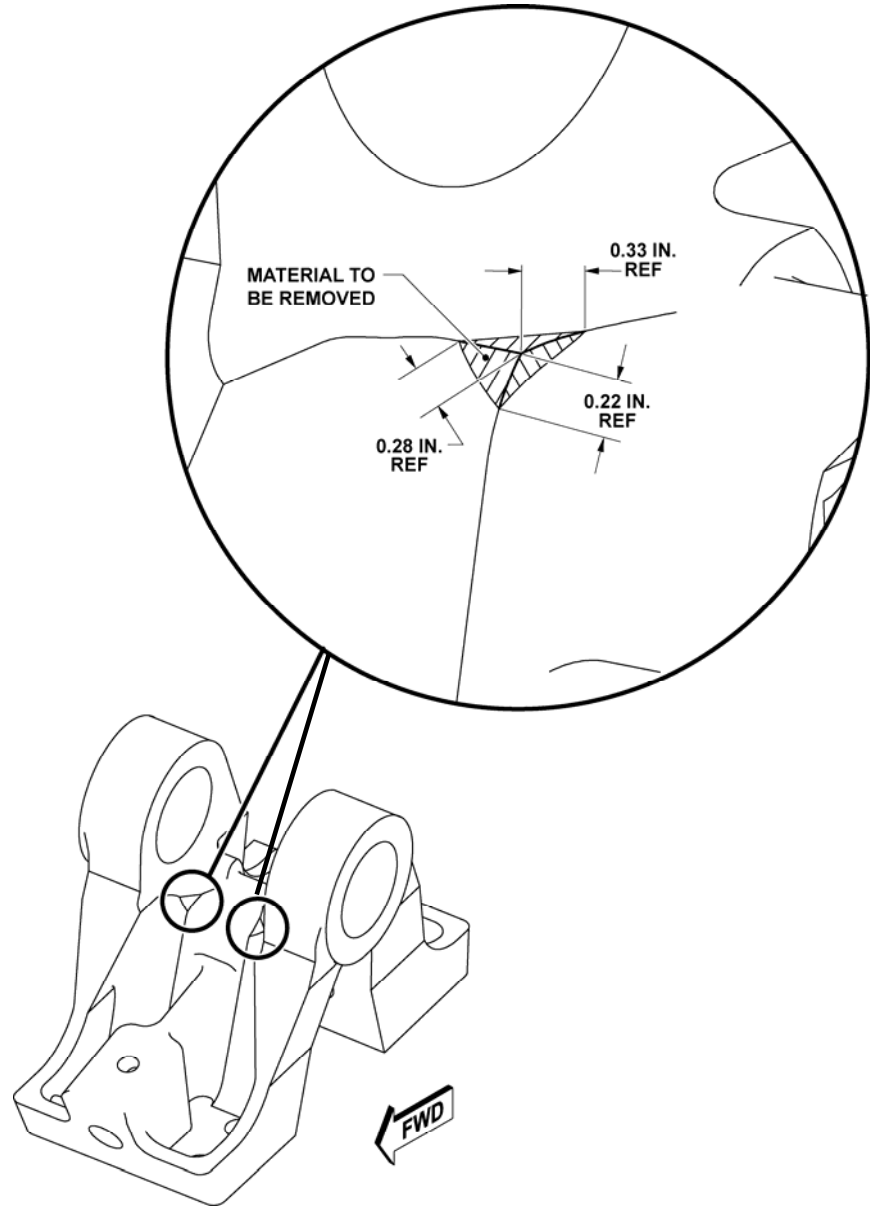

FIGURE 1 Support Assembly sheet 2 of 2
2. Using a mirror and a bright light, inspect for fouling between the aft arm assembly and the support assembly at the area shown in Figure 1 view A. Inspect the L/H and R/H support.
2. Starting with a smooth cut hand file and then finishing with 220 and 400 grit abrasive cloth or paper (C-423), remove 0.100inch (2.54mm) material maximum from the support assembly as shown in Figure 1 sheet 2 Ensure smooth transition to the surrounding areas. Break all sharp edges in repaired areas. Repeat process for the opposite side.